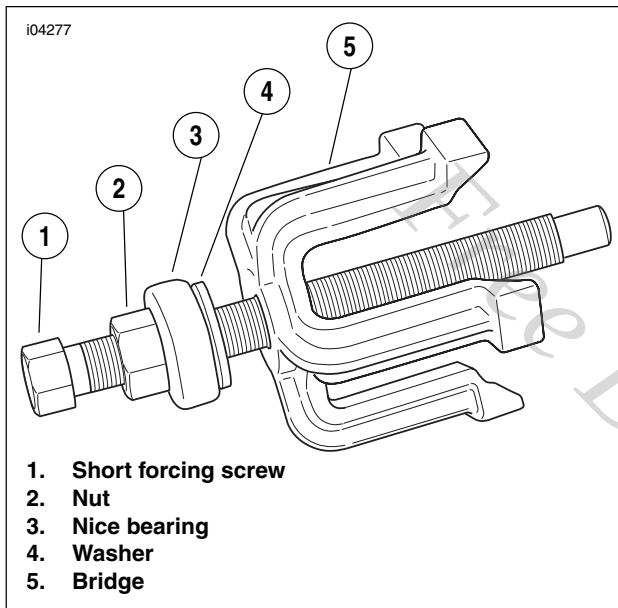

Figure 2-6. Assemble Puller
1. See Figure 2-6. Remove wheel bearings using BUSHING AND BEARING PULLER (Part No. B43993-7) and WHEEL BEARING REMOVER AND INSTALLER (Part No. HD-44060).
2. Sparingly apply Extreme Pressure Lubricant (J-23444-A) to the threads of the short forcing screw (1) to prolong service life and ensure smooth operation.